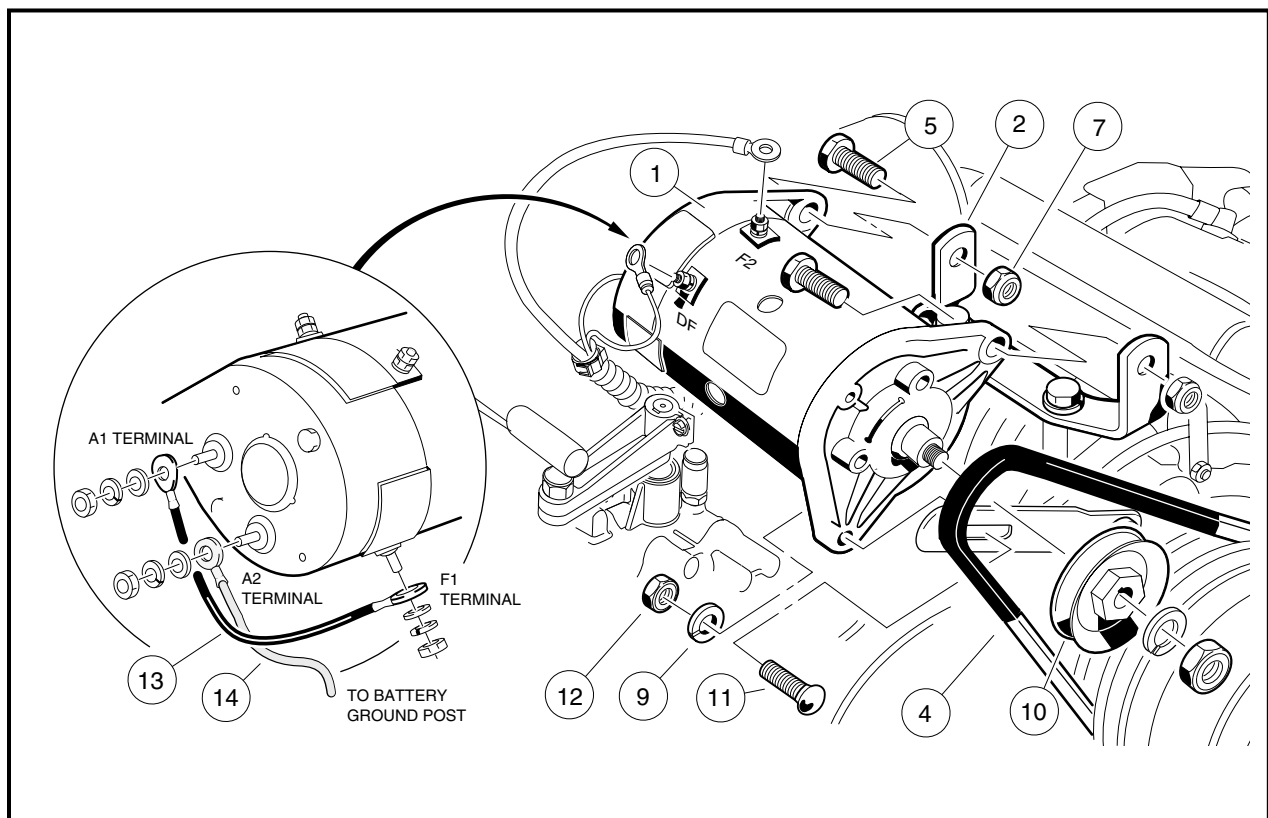

Figure 12b-2 Starter/Generator Removal
1. Remove the two bolts (20) and pull commutator end cover (23) free of starter/generator housing (24) (**Figure 12b-3, Page 12b-4**). See following **NOTE**.